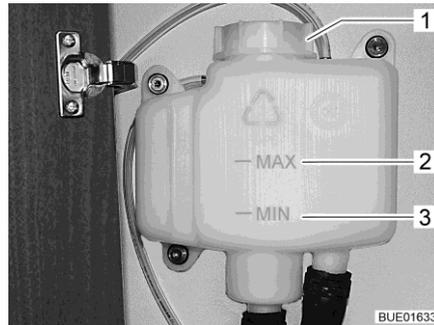

Fig. 199 Compensator reservoir without panel
- Check if the fluid level is between the marks "MIN" (Fig. 199,3) and "MAX" (Fig. 199,2) on the compensator reservoir (Fig. 199).
- Open the rotary lid (Fig. 199,1) on the compensator reservoir.